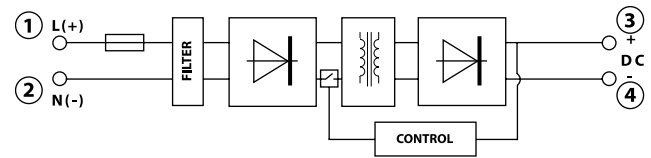

Figure-3
- The part which are numbered as 1 and 2 shown in Figure-3 are the Line and Neutral supply inputs of PS-242.
- The part which are numbered as 3 and 4 in Figure-3 are the DC voltage output of PS-242.